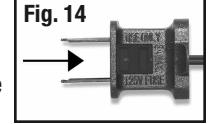

Fig. 13
2. Slide the fuse access cover away from cord side (in direction of arrow, Figure 13) exposing fuses.